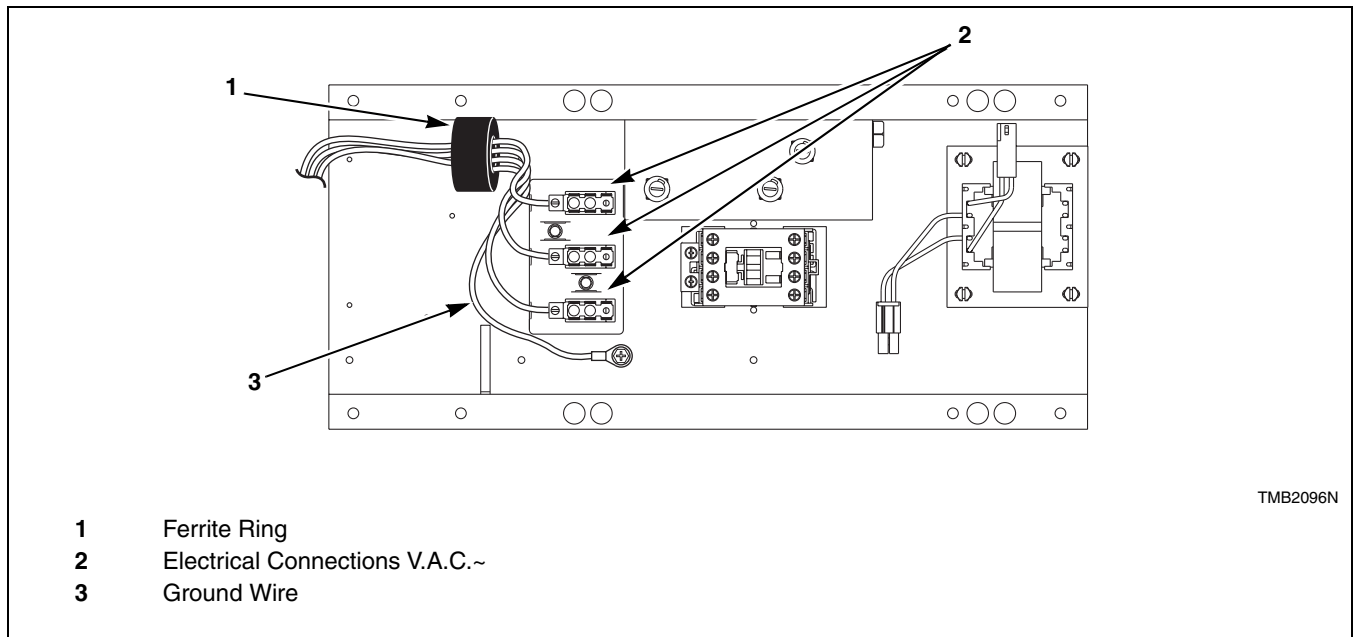

Figure 19
2. Snap the ferrite ring closed over all of the service leads inside of the control tray as shown. It is important that the ferrite ring be installed inside the control tray. Refer to *Figure 19*. Do not install the ferrite outside of the box or other area. Make sure that service leads are in the center of the ferrite before closing the ring so as not to pinch or damage leads.